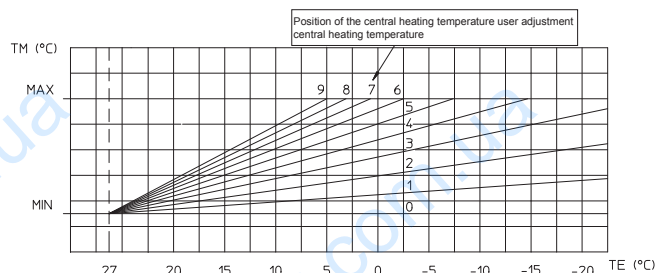

Fig. 1-8
The probe can be connected directly to the boiler electrical system and allows the max. system flow temperature to be automatically decreased when the external temperature increases, in order to adjust the heat supplied to the system according to the change in external temperature. The external probe always acts when connected independently from the presence or type of room thermostat used. The correlation between system flow temperature and external temperature is determined by the position of the selector switch on the boiler control panel according to the curves shown in the diagram (Fig. 1-8). The electric connection of the external probe must be made on clamps 38 and 39 on the boiler P.C.B. (Fig. 3-2).
• **Functioning with optional external probe** (🌡️). In the case of a system with optional external probe, the boiler flow temperature for room central heating is managed by the external probe depending on the external temperature measured (Par. 1.6). The flow temperature can be modified by selecting the functioning curve via buttons (5 and 6), selecting a value from “0 to 9” (Fig. 1-8).